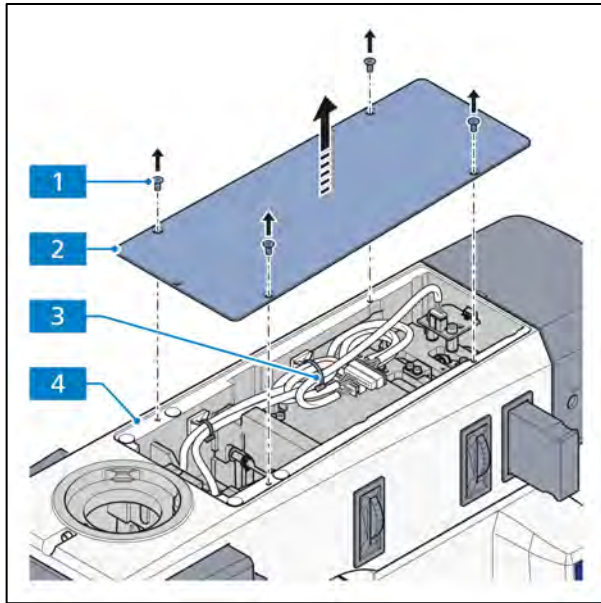

Fig. 3-53 Removing the cover of the upper stand part
- Unscrew the 4 screws (Fig. 3-53/1) of the cover and remove the cover (Fig. 3-53/2) from the upper stand part (Fig. 3-53/4).
- Cut and remove the one cable tie (Fig. 3-53/3).